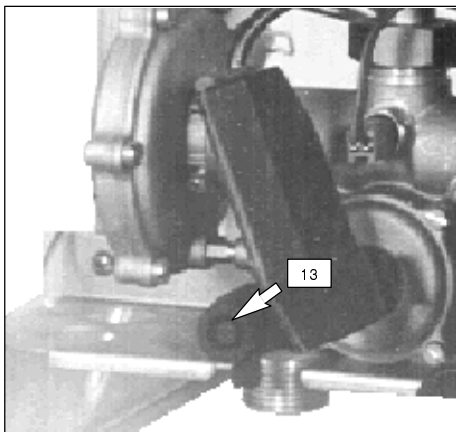

fig. 6.4
- 2 Turn off the central heating drain cock (13 in fig. 6.4).